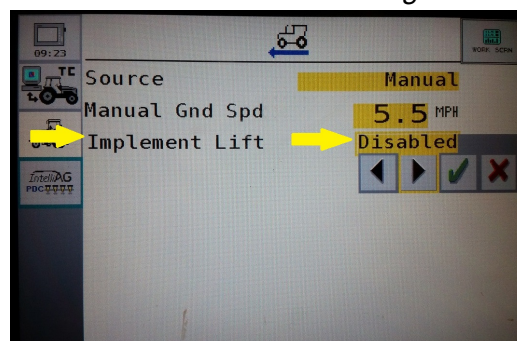

Figure 52
Step 5. Select **Implement Lift** and change to **Disabled** as shown in Figure 52.